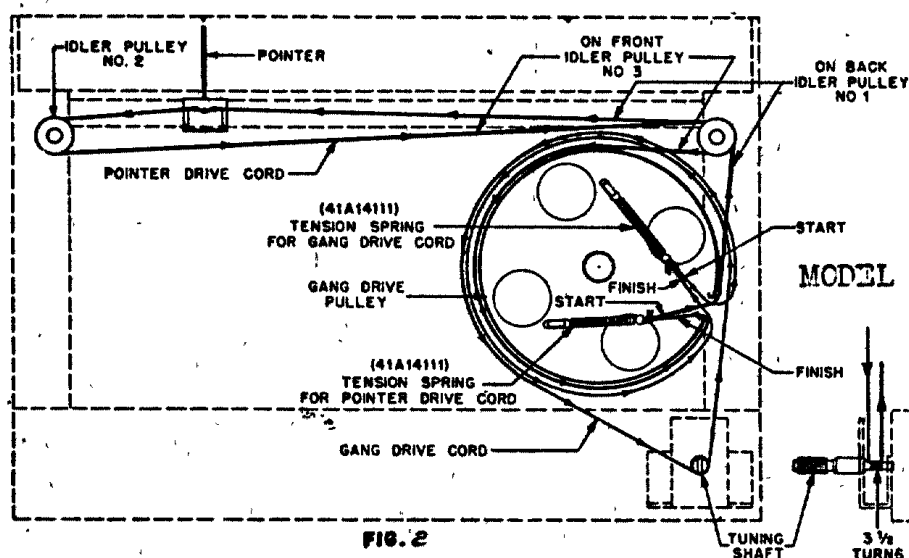

FIG. 2
6. Hook other end of spring to gang drive pulley as shown in Fig. 2.